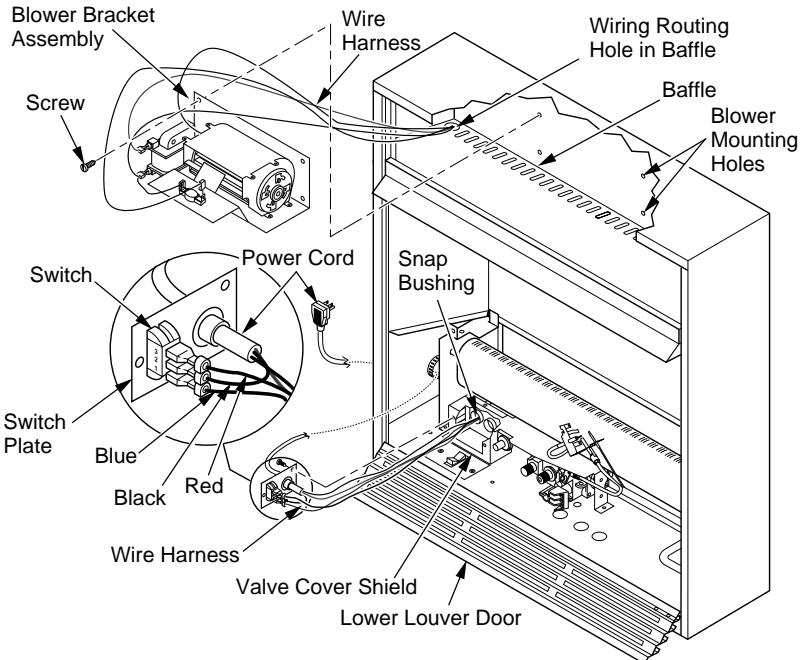
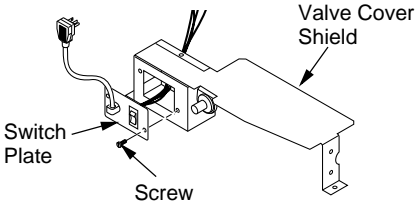

Figure 15 - Installing Blower Bracket Assembly
Figure 17 - Installing Switch Plate to Valve Cover Shield
3. Note the wire locations on back of AUTO/OFF/ON switch. The terminals on back of switch are numbered 1, 2, and 3. Carefully remove red wire from terminal 3 and blue wire from terminal 1. Black wire can remain on middle terminal 2 (see Figure 15).
5. In top of the fireplace cabinet, locate the four mounting holes on the outer casing. Align these four holes with those on the blower bracket assembly. Attach blower bracket assembly to the outer casing with 4 #10 screws provided (see Figure 15).
6. Route the wire harness through the hole in left side of baffle. Pull wire harness through lower opening on the side of the valve cover shield. (see Figure 15).
7. Insert the 4 wire harnesses into one of the round holes in the rear of the valve cover shield and through the rectangular hole in the front of shield (see Figure 15).
- Install the switch plate on the valve cover shield with 2 #10 screws provided (see Figure 17). Route power cord out of the cabinet by inserting it through the bushing on the outer casing (see Figure 15, page 14). Plug fan kit into 120-Volt grounded power supply and test operation.